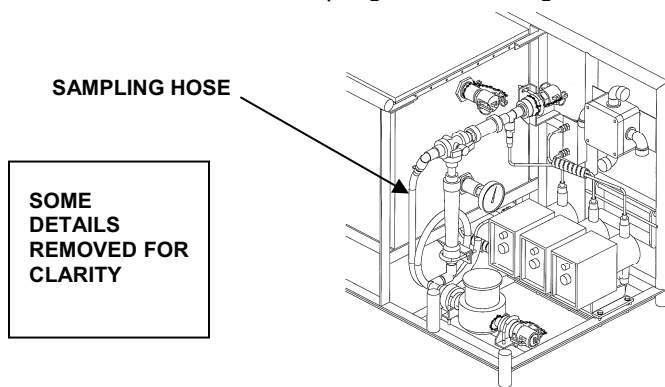

Figure 3. Chemical Module Sampling Hose.
11. Check to ensure contaminants are no longer detected. Measure the water quality of the second pass product water using the TDS and chlorine meters. The product TDS should be less than 1 mg/liter in double pass mode after the NBC canisters at sampling hose. See Figure 3.